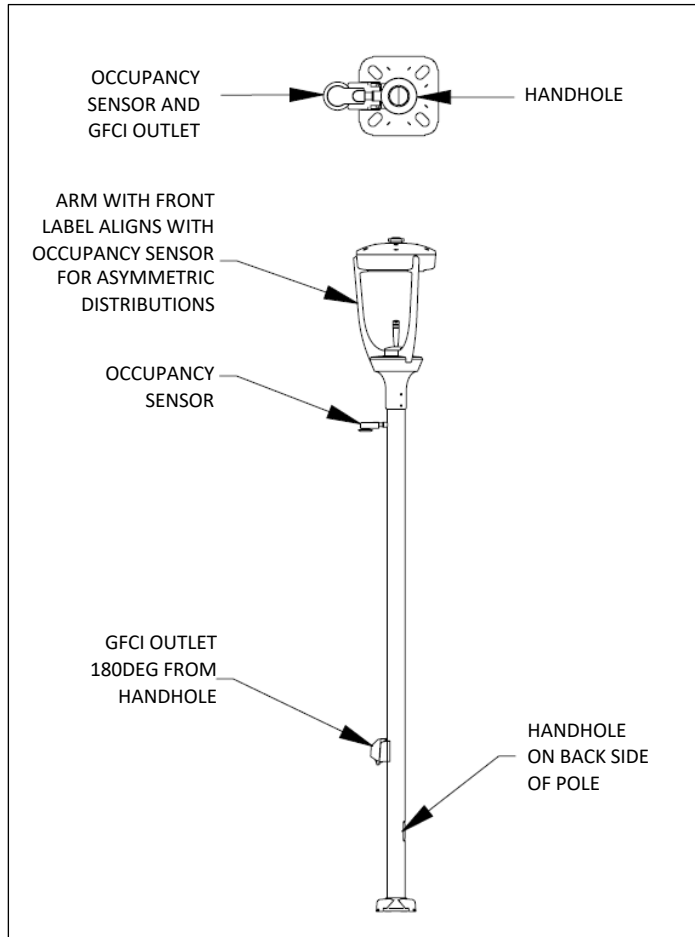
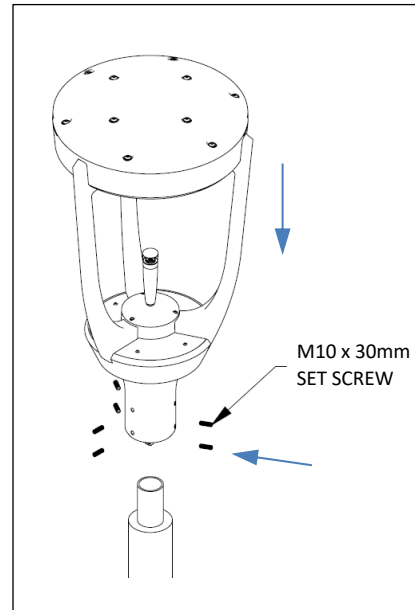

Fig. 1 – Pole orientation
Fig. 2 – Install single post top luminaire on pole
1. Install single luminaire over tenon mount on pole. Using 5mm hex key, install and tighten all 6 set screws to secure luminaire to tenon, see Fig. 2, level as required. For asymmetric light distribution luminaires, one arm of the luminaire will be clearly marked as 'Front', see Fig. 1.